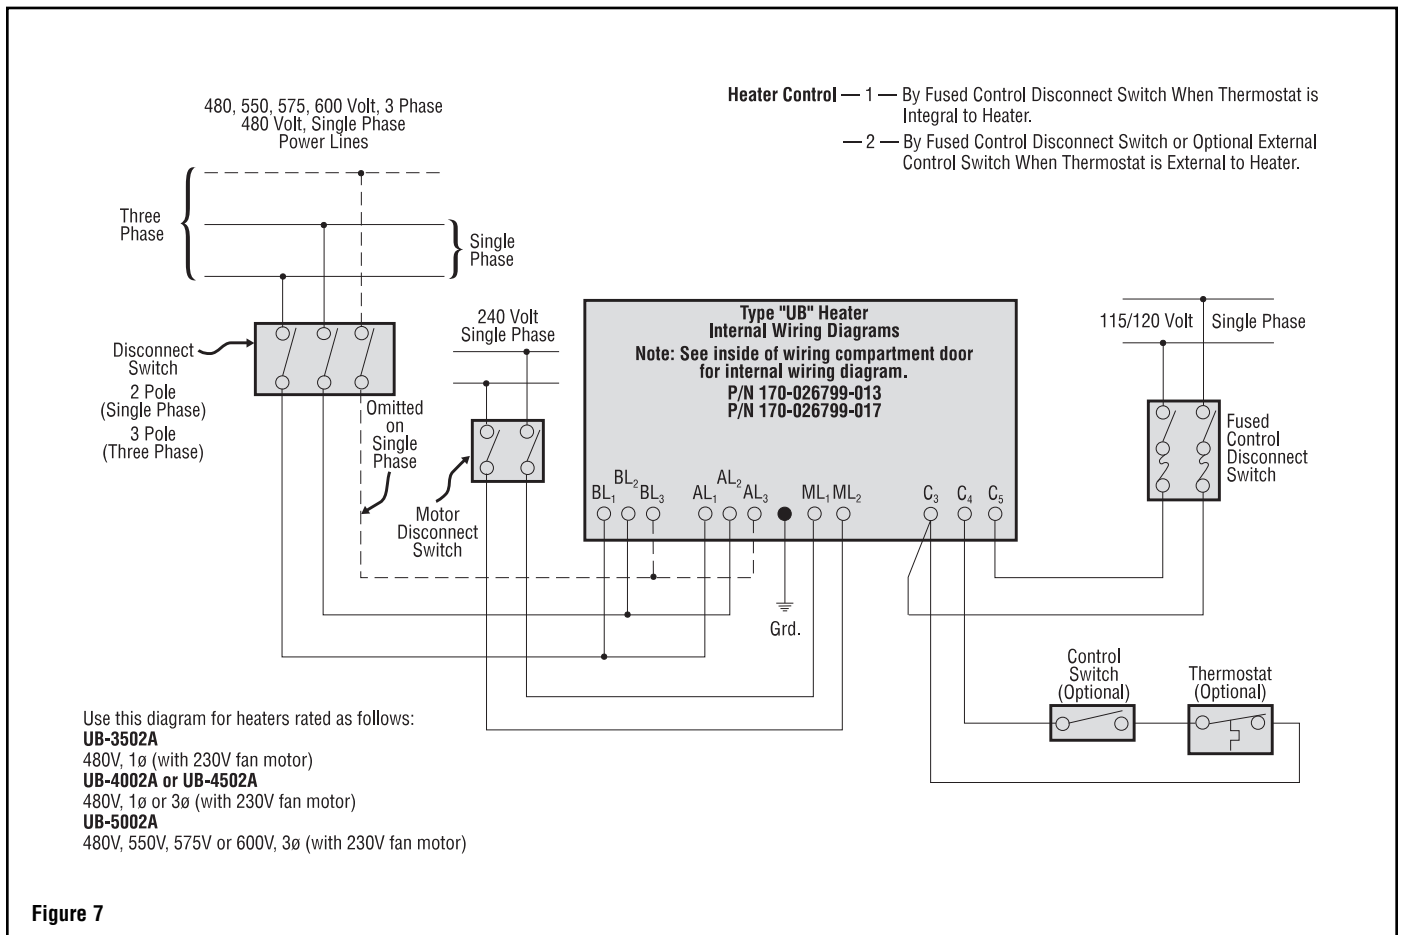

Figure 7
2. If an external transformer is used to step down the voltage for operating the fan motor, use appropriate wiring diagram (Figures 7 thru 14).